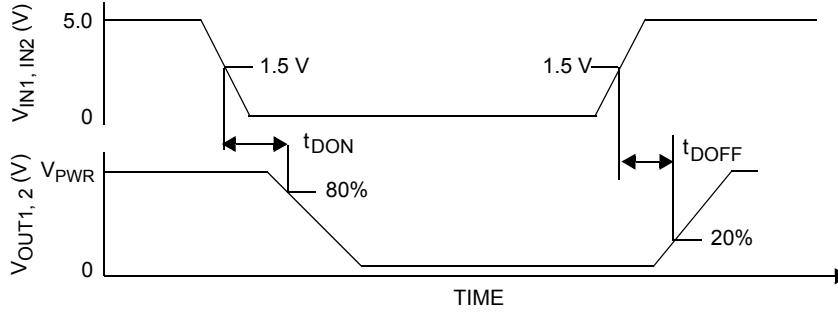

Figure 4. Output delay time
- * Output Delay is the time duration from 1.5 V on the IN1 or IN2 input signal to the 20% or 80% point (dependent on the transition direction) of the OUT1 or OUT2 signal. If the output is transitioning HIGH-to-LOW, the delay is from 1.5 V on the input signal to the 80% point of the output response signal. If the output is transitioning LOW-to-HIGH, the delay is from 1.5 V on the input signal to the 20% point of the output response signal. See Figure 4, page 10.